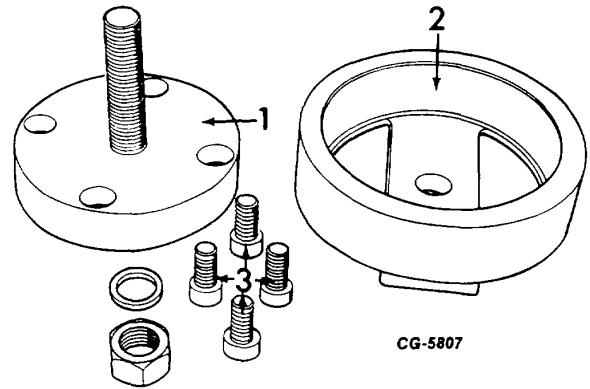

Figure 31. - Wear Sleeve and Oil Seal Installer
- c. Use the wear sleeve and oil seal installing tool (see tool list for tool number) as shown in Fig. 31.